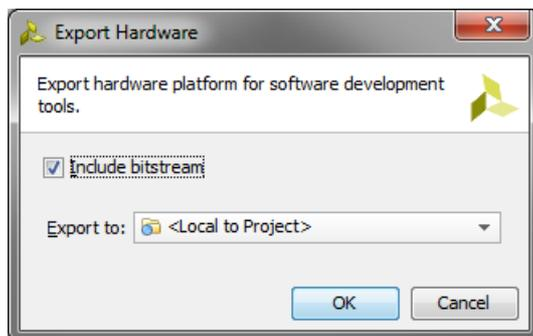

Figure 1.25: Export Hardware for SDK
- (s) The *Export Hardware* dialogue window will open. Ensure that the option to **Include bitstream** is selected, as in Figure 1.25, and Click **OK**.